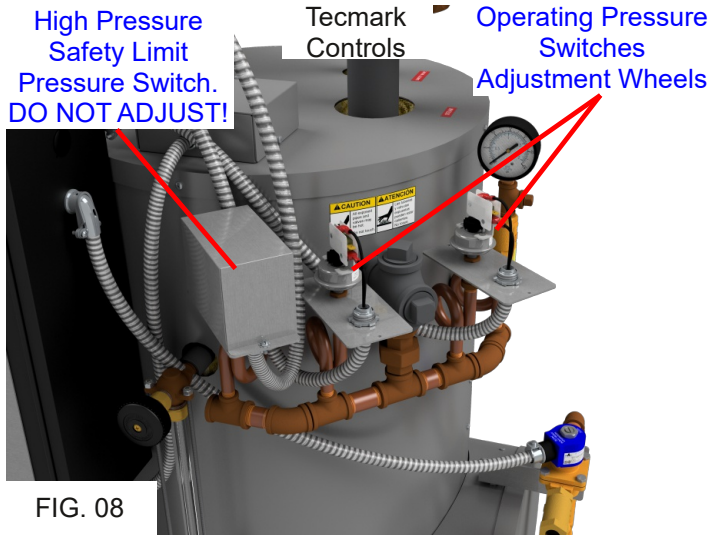

FIG. 08
- **Ranco Controls (Fig. 08):** Turn the range adjustment screw clockwise to increase the pressure and counter clockwise to decrease the pressure.